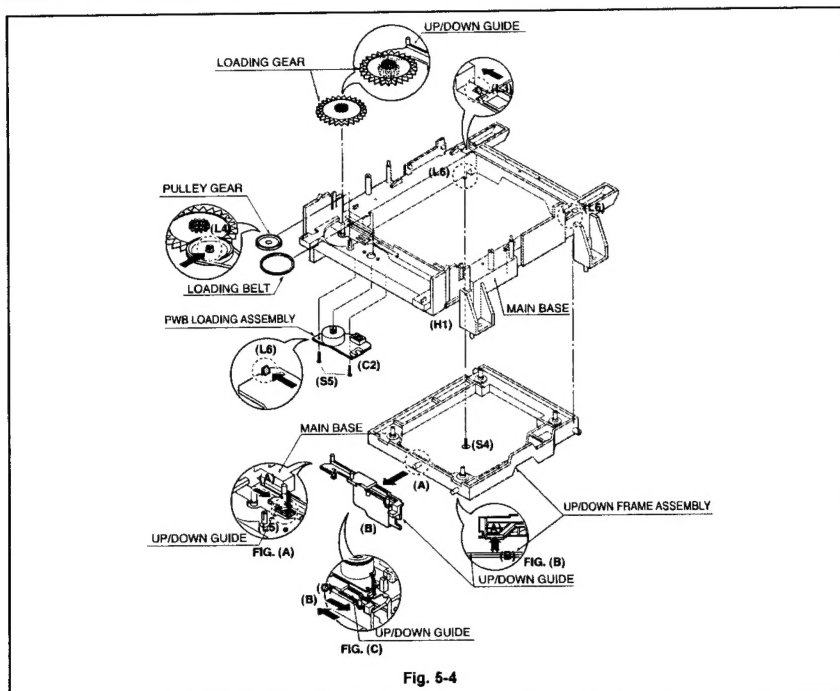

Fig. 5-4
5. Frame Assembly Up/Down (Fig. 5-4)**Note**
- When reassembling move the Guide Up/Down in direction of arrow(C) until it is positioned as Fig.(C).
- When reassembling insert (A) portion of the Frame Assembly Up/Down in the (B) portion of the Guide Up/Down as Fig.(B)
6. Belt Loading(Fig. 5-4)**Note**
7. Gear pulley (Fig. 5-4)
- 1) Unlock the Locking Tab(L4) in direction of arrow(B) and then separate the Gear Pulley from the Base Main.
8. Gear Loading (Fig. 5-4)**9. Guide Up/Down (Fig. 5-4)**
10. PWB Assembly Loading (Fig. 5-4)**Note**
11. Base Main(Fig. 5-4)